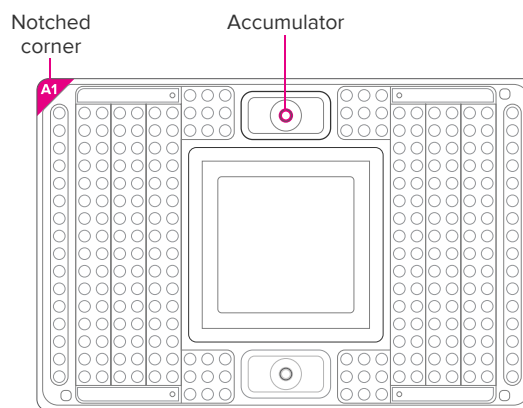

Figure 1. Top accumulator on 192.24 IFC
- 2 Inject Control Line Fluid into the top accumulator on the IFC (Figure 1). Use the entire contents of the syringe.